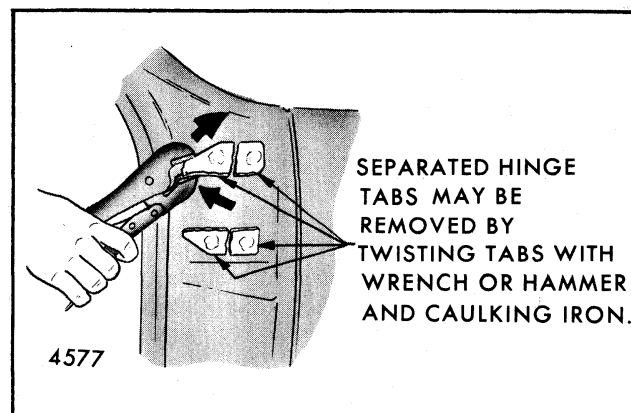

Fig. 5-78-Body Side Hinge Strap Removal - "X" Styles
5. Mig welds holding separated hinge tabs can be broken by twisting or rotating the individual hinge tab segments with suitable tool, such as grip type pliers, pipe wrench, etc. (refer to Fig. 5-78).